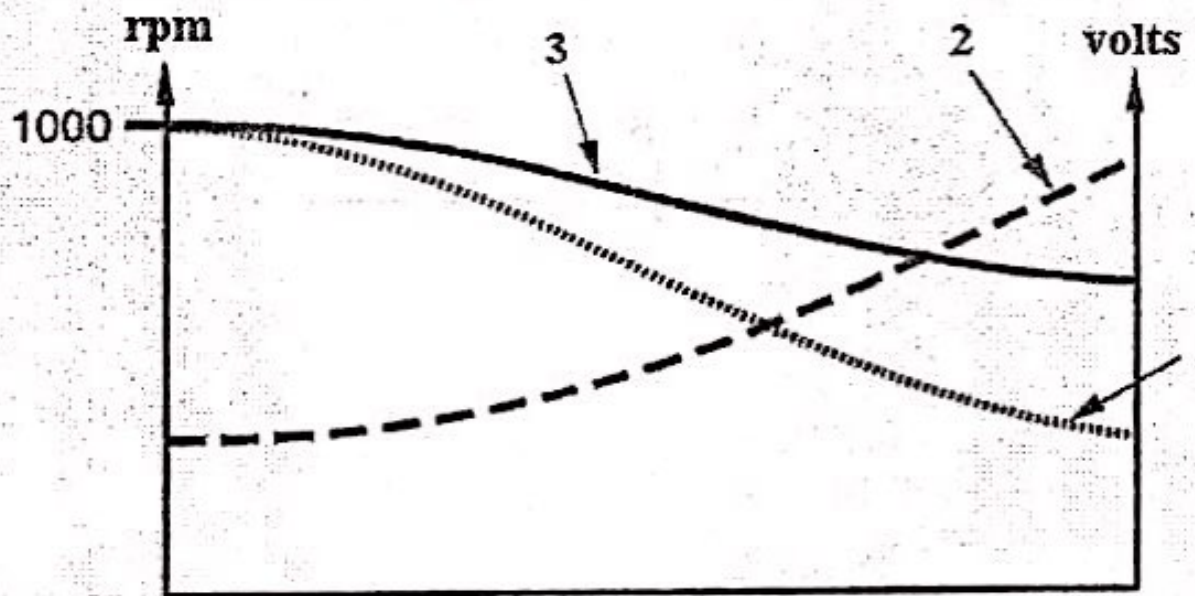

Figure 5.
Q3. Figure 5 shows a plot that you got when you did the DC servo experiment.
1. The name of the system that you should connect in order to get the results shown in Figure 5 is: _____.